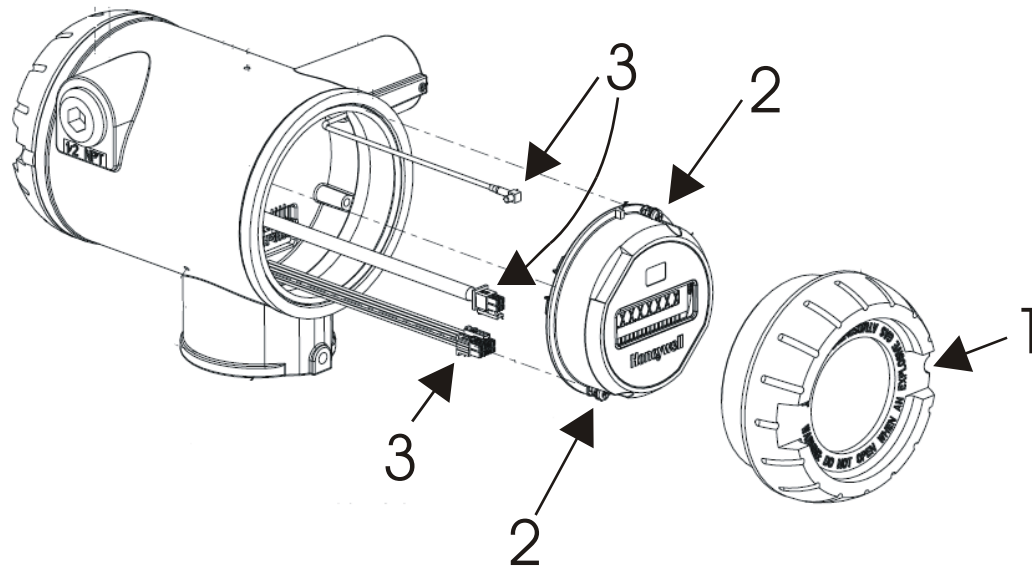

Figure 9 Display/sensor module removal and replacement
2	Loosen the M3 locking set screw on the display end-cap. See item 1 in Figure 9. Unscrew and remove the end cap.
3	Loosen the two screws on the display/sensor module. See items 2 in Figure 9.
4	Disconnect each connector on the display/sensor module. See items 3 in Figure 9.